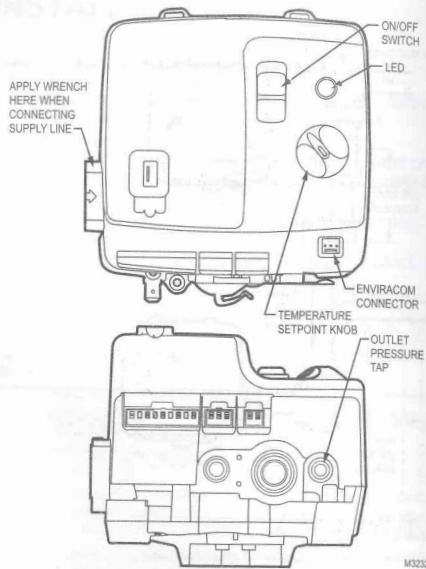

Fig. 7. Water heater controls.
7. Connect the pipe to the water heater control inlet to a maximum of 40 ft-lb of torque. Use a wrench on the square end of the water heater control. Refer to Fig. 7.